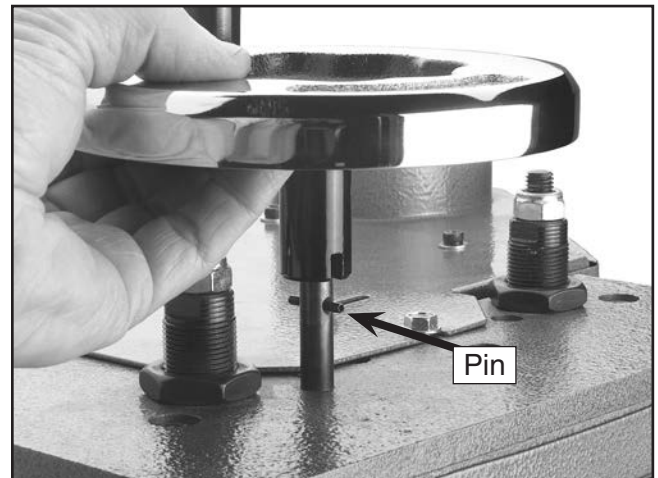

Figure 15. Installing handwheel.
1. Place the handwheel over the shaft shown in **Figure 15**. Rotate the handwheel until the pin in the shaft slides into the groove in the handwheel.